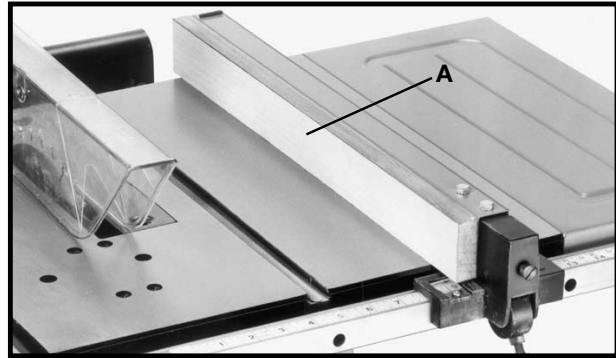

Fig. 51
Wood facings (A) Fig. 51 are necessary on some special operations to one or both sides of the rip fence. The wood facing is attached to the fence with screws through the holes in the fence. Most work will require a 3/4 in. stock, although an occasional job may require 1 in. facing.